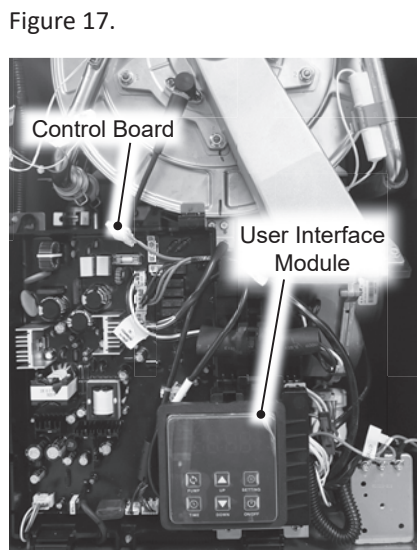

Figure 17 - User Interface Module
- 5 Locate the user interface module on the bottom front of the water heater. See Figure 17.
**13** Locate the control board on the bottom front of the water heater. See Figure 17.